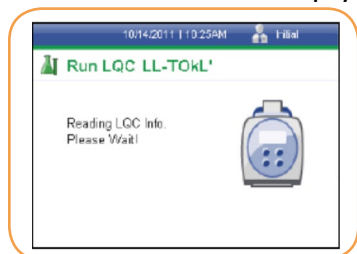

FIGURE 104
13. Immediately insert the cassette into the drawer as instructed, then close the drawer. The reader will automatically start the LQC testing and a *Run LQC* screen will be displayed (Figure 104).